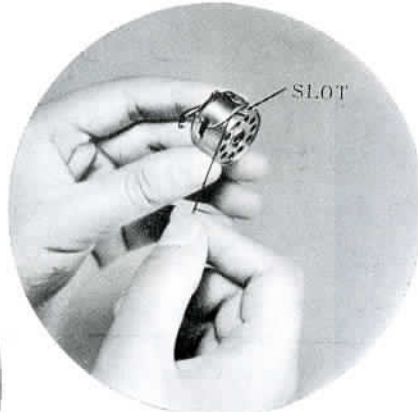
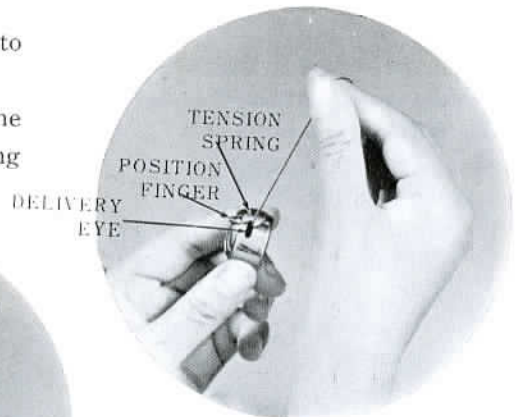

Fig. 5
Fig. 6
2. While holding the bobbin case as before, grasp the thread with your right hand, and guide it into the cross slot (Fig. 5).
3. Then pull it through under the tension spring of the bobbin case (Fig. 5) until it enters the delivery eye, and it will come out to the position indicated in Fig. 6 (Fig. 6).